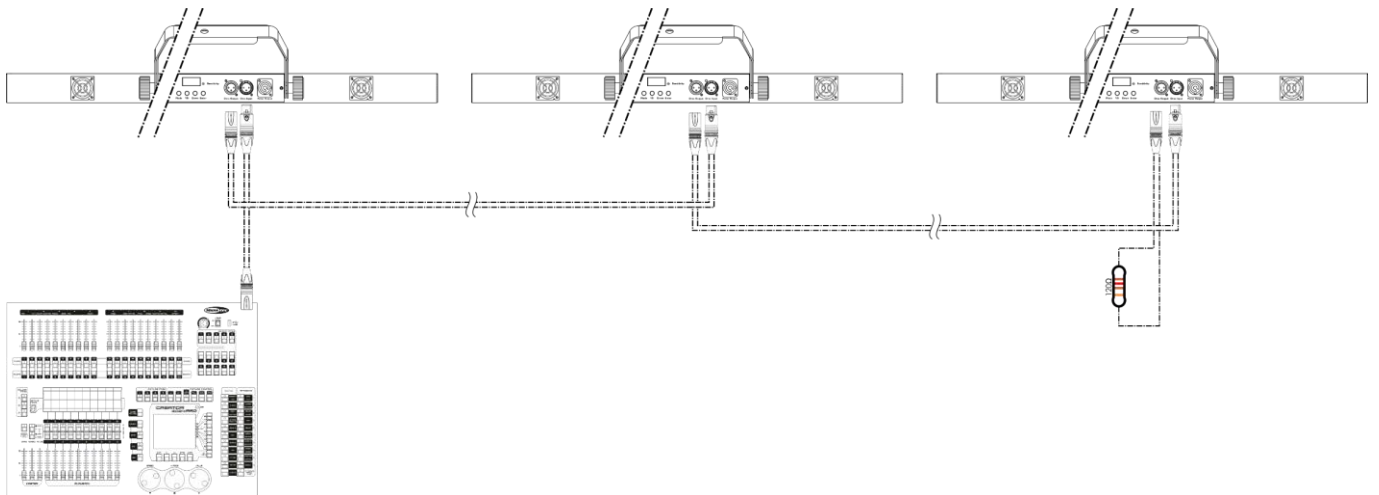

Fig. 04
- 04) Link the units as shown in Fig. 04, Connect a DMX signal cable from the first unit's DMX "out" socket to the second unit's "in" socket. Repeat this process to link the rest of the units.